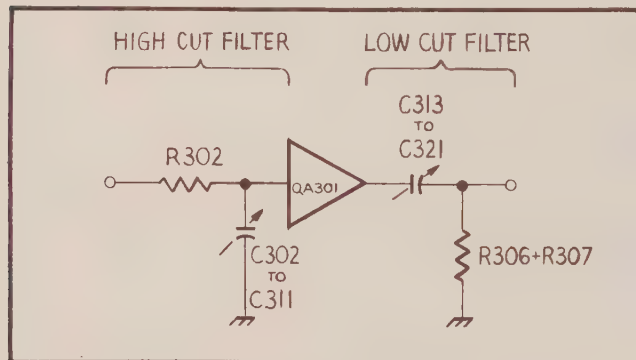

FIGURE 25. High-Low Cut Filter.
a. **HIGH CUT Filter.** The high-cut filter circuit is adjustable by means of switch S301A. This switch has 10 positions designated 10 Hz to 300 kHz. Each position represents the "3 dB Down" point on the overall frequency response characteristic. The filter is essentially a low-pass filter as shown in Figure 25. The response of the filter is approximately given by the equation:
b. **LOW CUT Filter.** The low-cut filter circuit is adjustable by means of switch S301B. This switch has nine positions designated 0.1 Hz to 10 kHz. Each position represents the "3 dB Down" point on the overall frequency response characteristic. The filter is essentially a high-pass filter as shown in Figure 25. The response of the filter is approximately given by the equation: